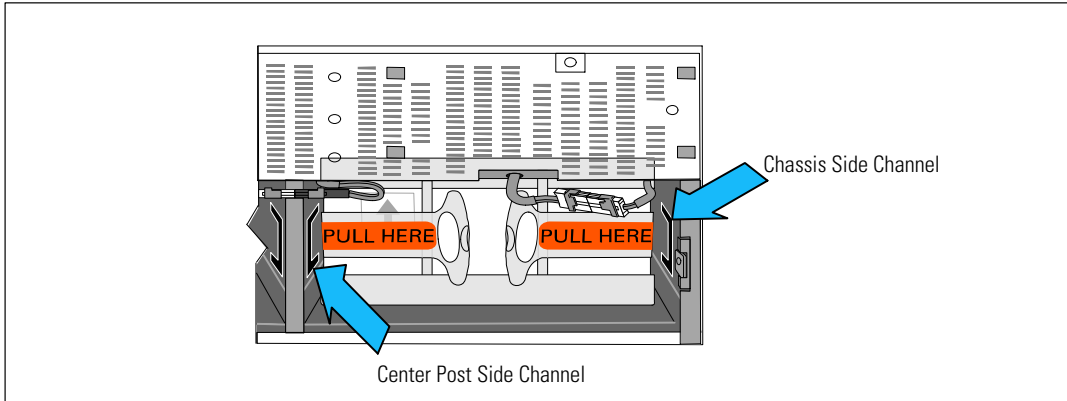

Figure 36. Inserting the bracket into the Channels
- 5 Replace the left (L) and right (R) battery retaining brackets (see Figure 36):